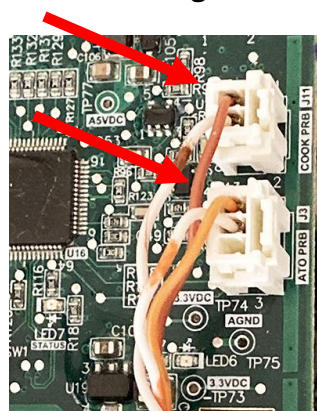

Figure 69
69. Reconnect the ATO and COOK probes to the SIB board (see Figure 69).